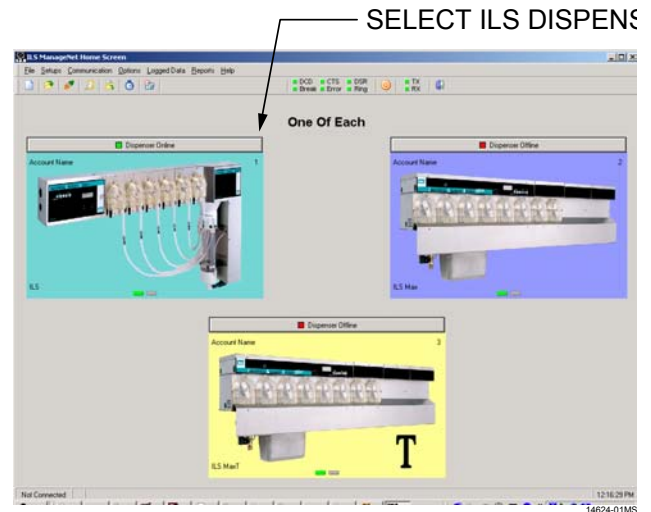

Figure 2. Data-capable Summit E and Summit XL will appear as ILS in ManageNet
2. When setting up Summit E and Summit XL with the Data Module, these dispensers do not appear in the ManageNet 3.11 pick list. Select **ILS** for each Summit E or Summit XL you plan to set up. A graphic of ILS will appear (see Figure 2).